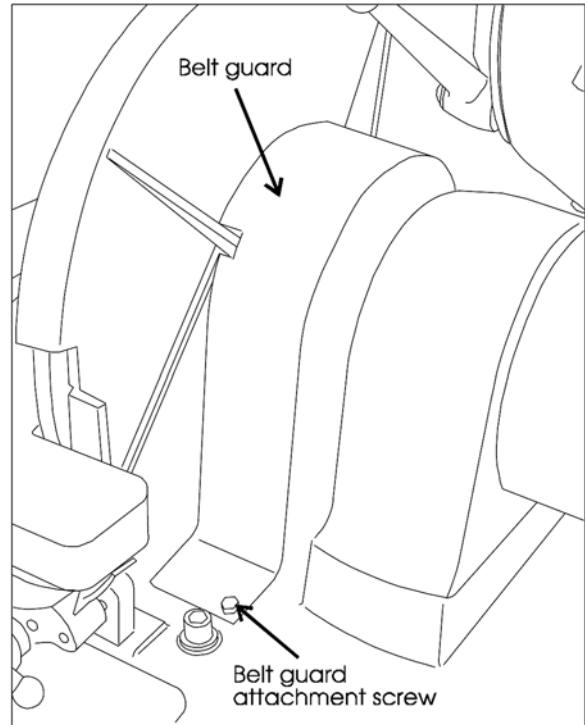

Figure 9: Removing belt guard
2. Remove the belt guard (Figure 9) and disc table.